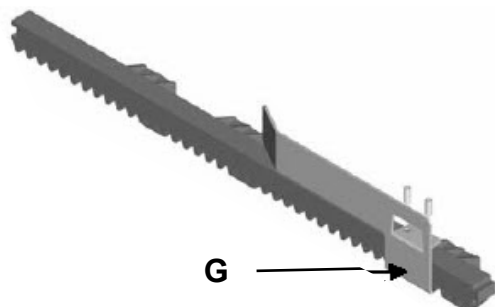

Fig. 4
- Check that the wheels (**Fig. 4**) used are suitable for the type of runner on the ground
Fasten the limit stop plates (Cams **G**) of the motor on the rack. **(Fig. 4)**